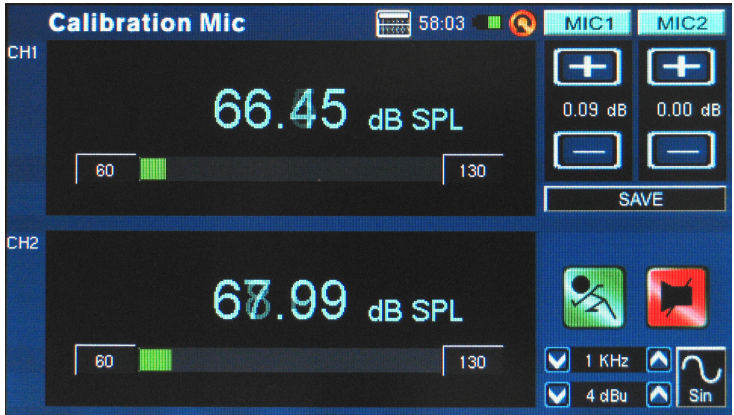

figure 70
- 4. Adjust the level measured from the SPL calibrator by pressing “+” and “-” buttons until the level is equal to that of the sound level calibrator (typically 94 dB). Pressing the “+” button each time will increase the value by 0.1dB; pressing the “-” button each time will decrease the value by 0.1 dB (figure 70).